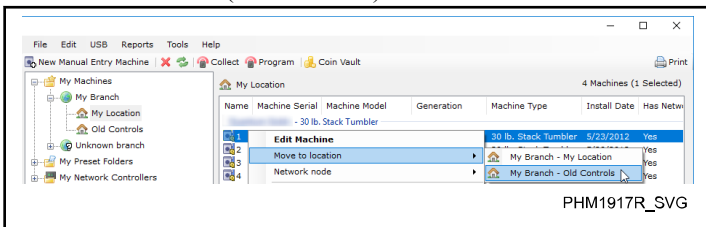

Figure 91
- b. Move the machine from its existing location to the new location. Refer to *Figure 91* in which the machine is being moved from the existing location (My Location) to the new location (Old Controls).